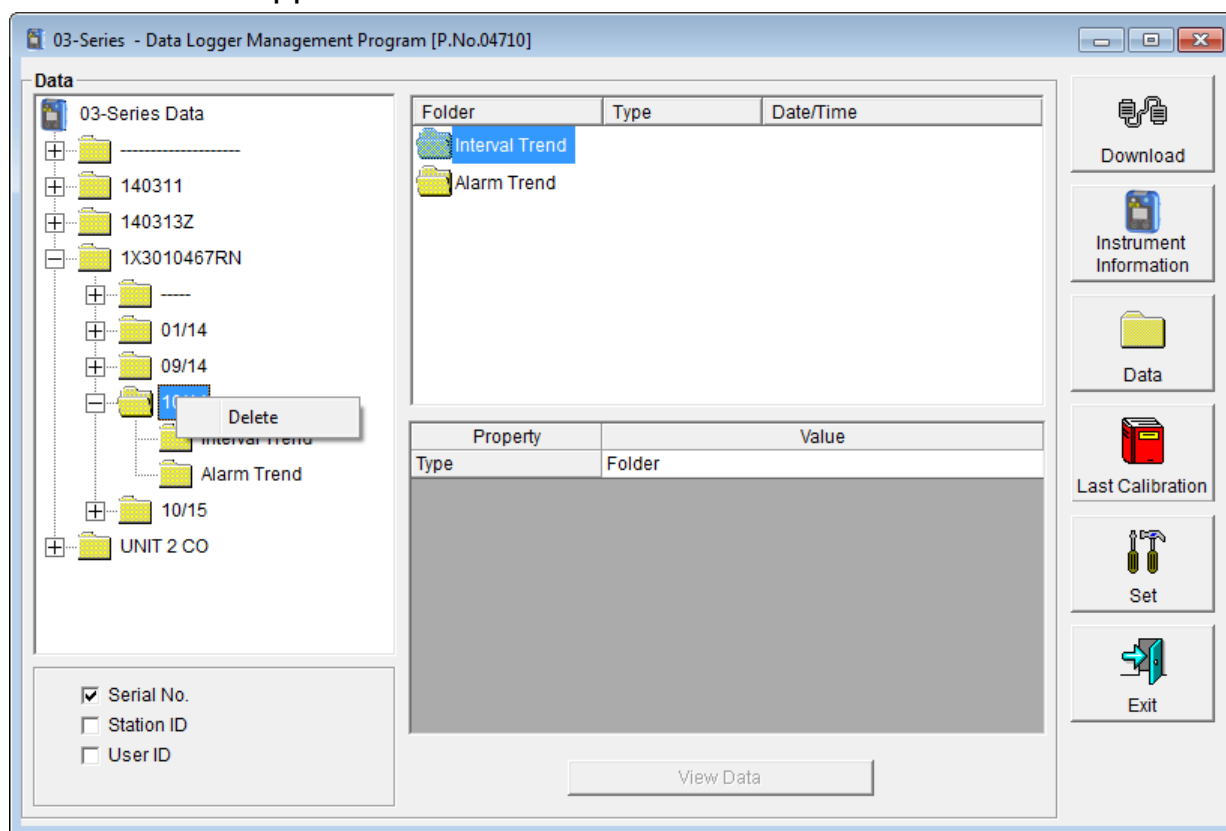

Figure 45: Delete Box
6. When the password has been entered and **Continue** clicked, the Delete Data Window (if a folder is selected for deletion) or Delete Sample Window (if a file is selected for deletion) will appear asking you to confirm that you want to delete the selected folder or file. In the example below, the Delete Data Window appears because the data folder shown in Figure 45 has been selected for deletion.